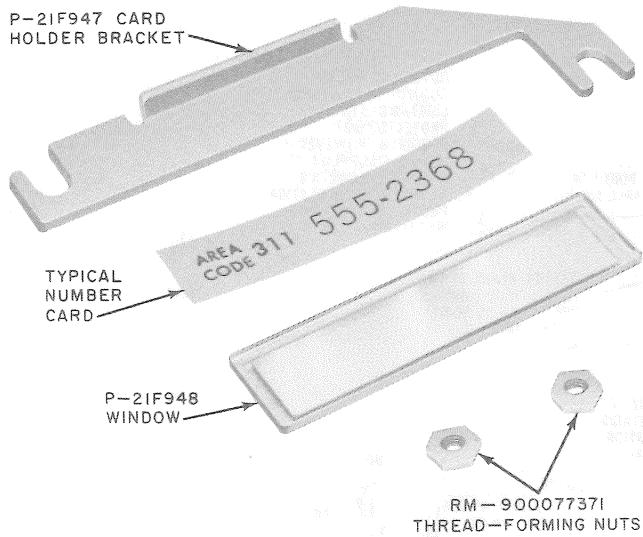

Fig. 28—Number Card and Associated Hardware (TOUCH-TONE Set)
- 2.42 A P-21F947 card holder bracket, P-21F948 window, and two hex nuts (Fig. 28) are packaged separately and shipped from the factory in the cash compartment.